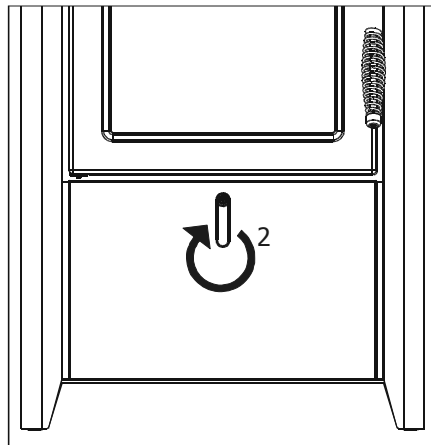

Fig.12 Secondary air inlet
Secondary air, as mentioned above, allows the completion of combustion and increases the efficiency (lever in pos.2 - fig.12).
The position of the lever in fig.12 determines the nominal output, minimizing primary air and the secondary air inlet.